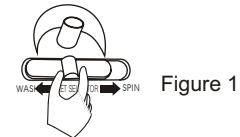

Figure 1
- (1) Set inlet selector to "Wash" side. (Figure 1)
- (2) Adjust water level rod to a position as needed.